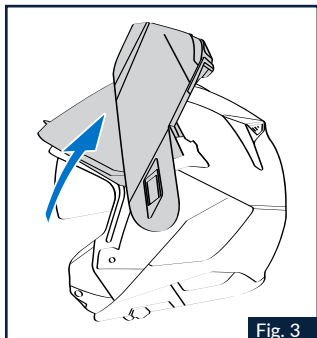
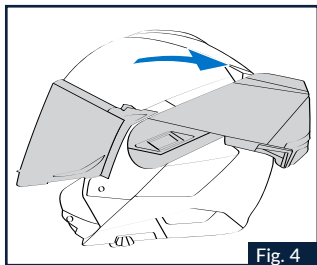

Fig. 3
Fig. 4
1.3 Pull the chin guard forward and accompany it in its rotational movement upwards (Fig.3) until it reaches its stop position on the back of the shell (Fig. 4).
2.1 Pull the chin guard forward, accompanying it as it rotates, until you hear the clicks of the closing mechanism (Fig.3).